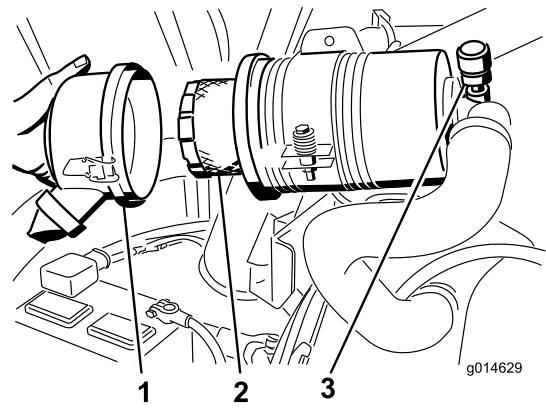

Figure 61
3. Remove and replace the filter (Figure 61).